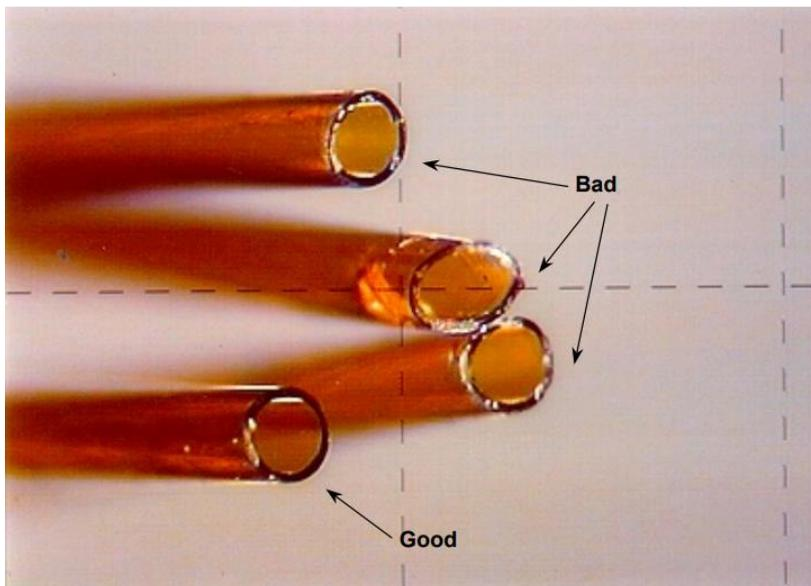

Figure 25. Examples of good and bad capillary column cuts.
- 5.4.4.4 Use a magnifier, check that the cut is clean and repeat if it is not (bad GC column cuts affects chemical elution and can lead to carrier gas leak). Figure 25 provides examples of good and bad cuts.